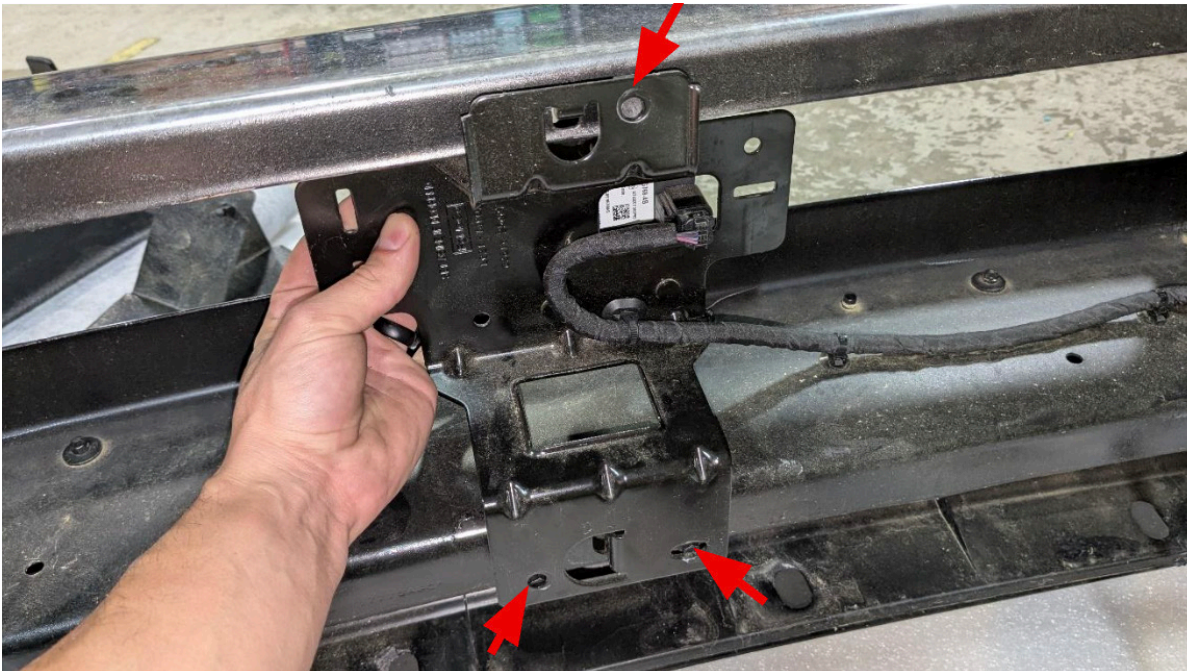

Figure 8
7. Using an 8mm socket wrench, remove the three (3) screws attaching the adaptive cruise control (ACC) sensor bracket to the inside of the bumper. Figure 8